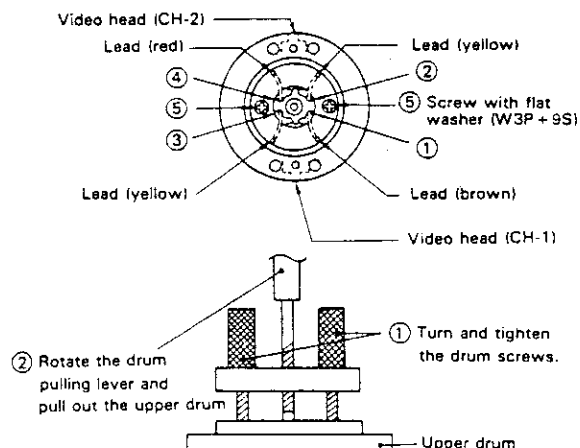

Figure 1-25.
● Replacement (See Fig. 1-25)
1. Unsolder the leads ① to ④ from the video head and remove them.
2. Remove the two screws ⑤ (brass screws with washers (W3P + 9S) using a phillips screwdriver.
3. Withdraw the upper drum by pulling it up with the upper drum replacement jig. (Refer to Fig. 1-25.)
1. Set the new drum for replacement, as shown in Fig. 1-25, and position the leads properly.